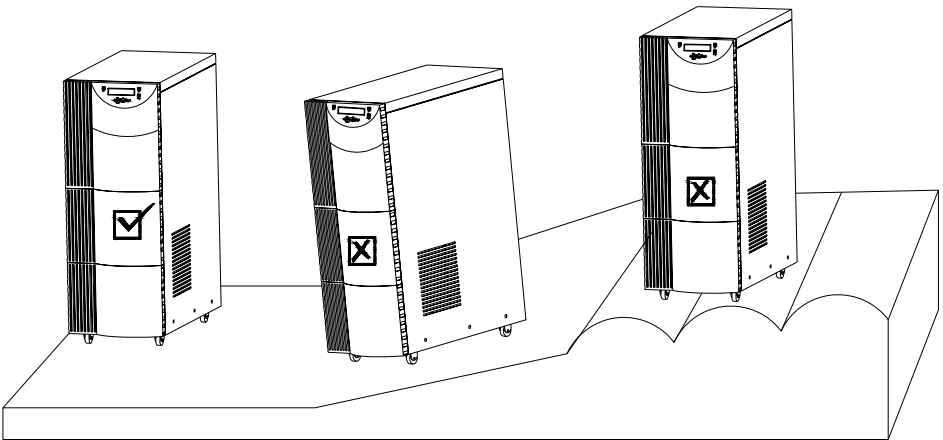

Figure 4, choice of placement position
1. Do not place the UPS on the slope or scraggy land. (Figure 4)